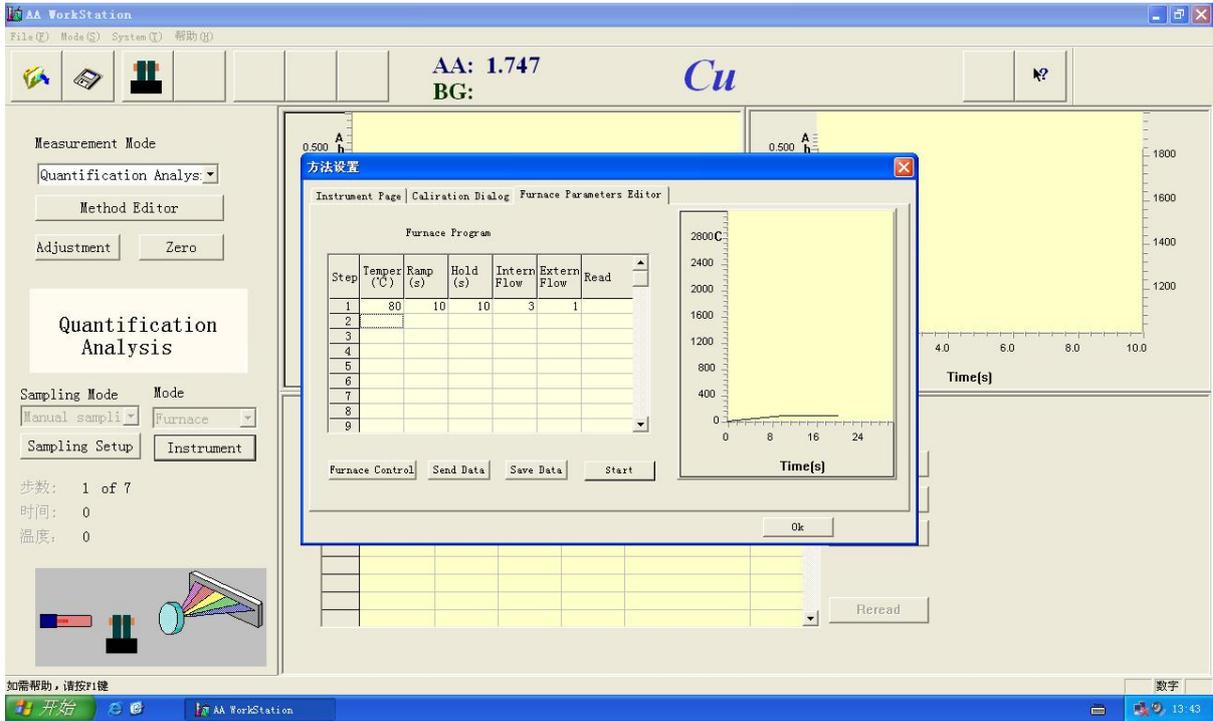

Figure 5-6
8. Input the program, such as input the No.1 program, see Figure 5-6